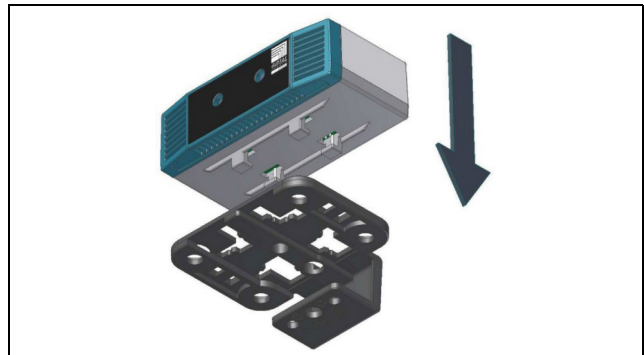
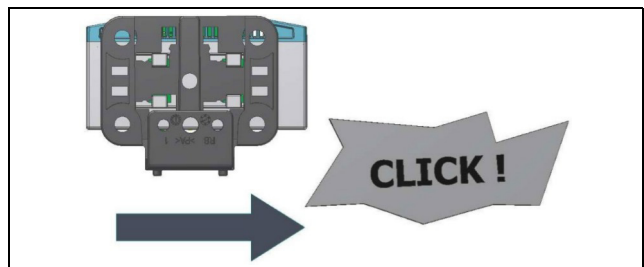

Fig. 4: Attaching the sensor to the bracket
Fig. 5: Latching the sensor into place on the bracket
- Then place the leak sensor on the bracket (fig. 4) and latch it into place (fig. 5).